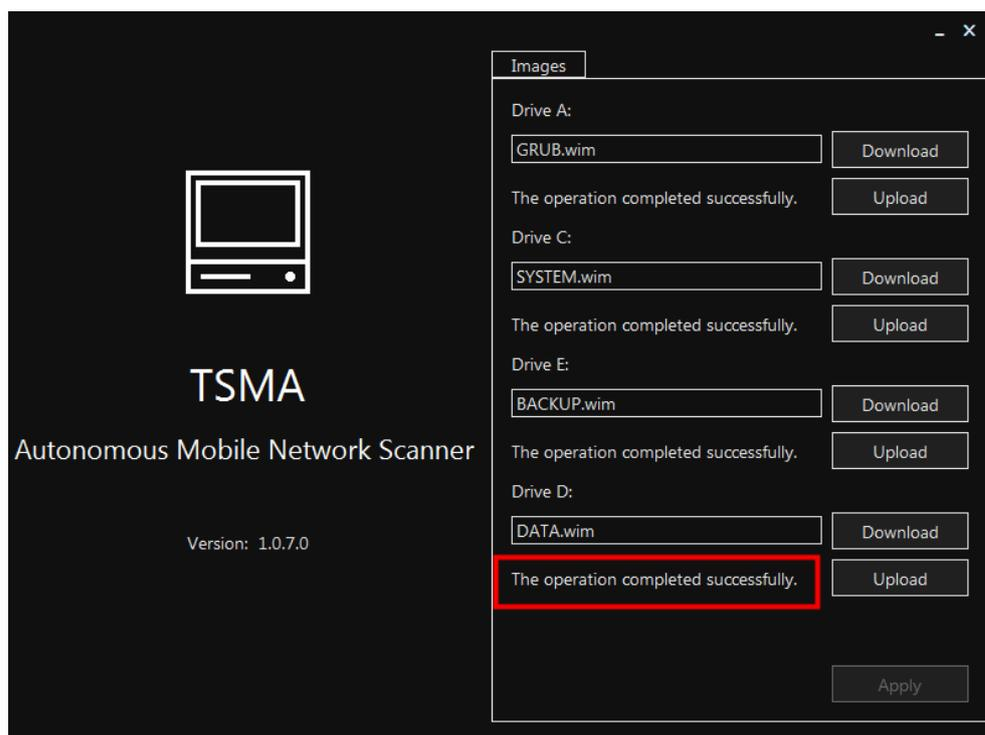

Figure 8-12: File Transfer Finished - "The operation completed successfully"
- When the file transfer has finished for any image file (see Figure 8-12), remove the TSMA Recovery Stick.